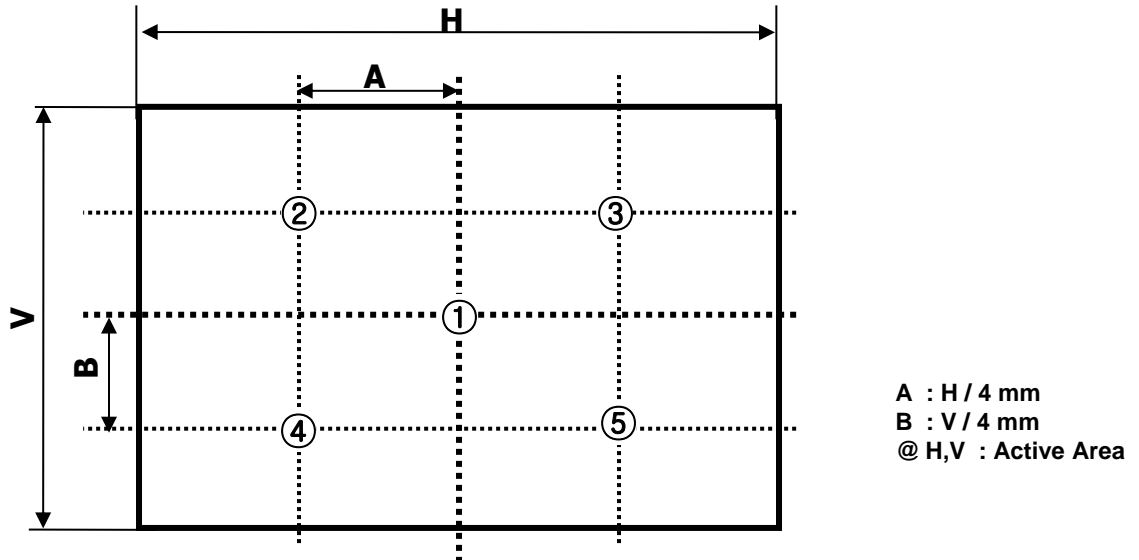

FIG. 2 5 Points for Luminance Measure
n = the Position number(1, 2, 3, 4, 5). For more information, see FIG 2.
2. Surface luminance are determined after the unit has been 'ON' and 60min after lighting the backlight in a dark environment at $25 \pm 2^\circ\text{C}$. Surface luminance is the luminance value at center 1-point across the LCD surface 50cm from the surface with all pixels displaying white. For more information see the FIG. 2.